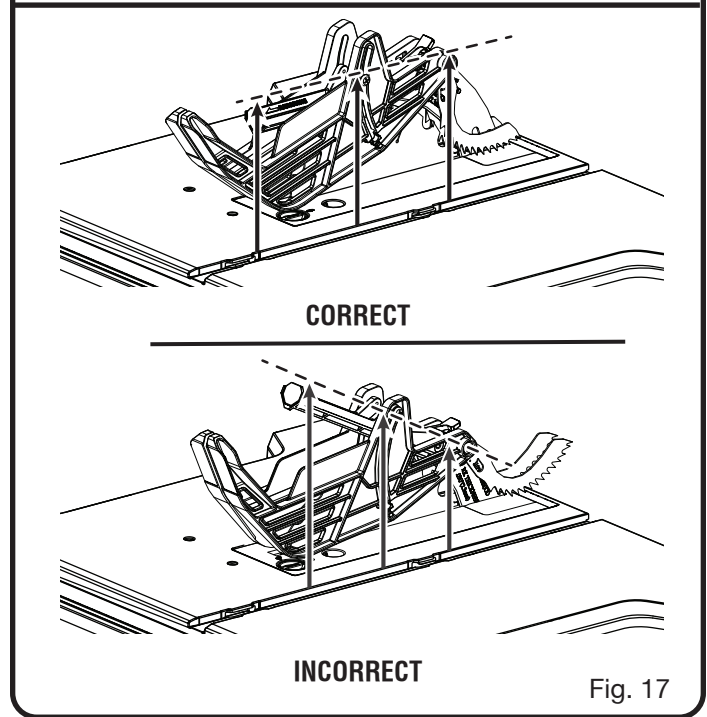

Fig. 17
- With the front of the blade guard raised, lower the back of the guard into the riving knife in the position shown. Push the front of the guard down until the bar inside the guard is **parallel to the table** (see figure 17). If the bar is not parallel to the table, the riving knife is not in the “up” position.